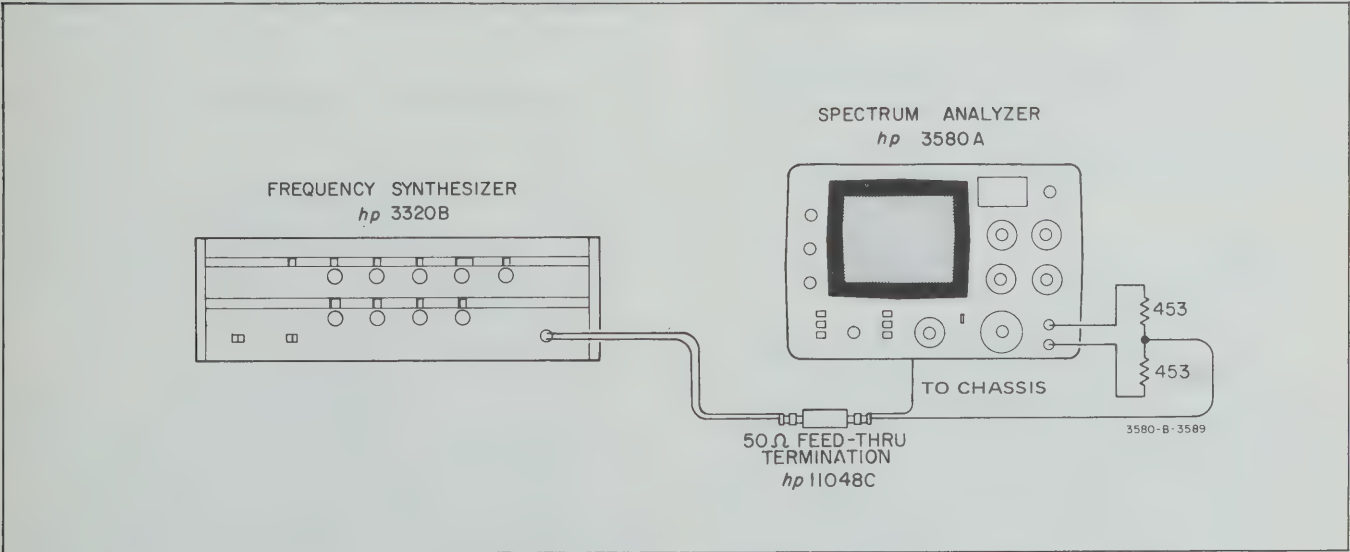

Figure 5-4. Common Mode Rejection Test.
g. Disconnect the synthesizer from the 3580A and connect two 453 ohm resistors in series between the INPUT terminals. (See Figure 5-4)
h. Connect the synthesizer to the junction of the two resistors and to the chassis on the rear panel as shown in Figure 5-4. (Do not change the synthesizer amplitude setting.)